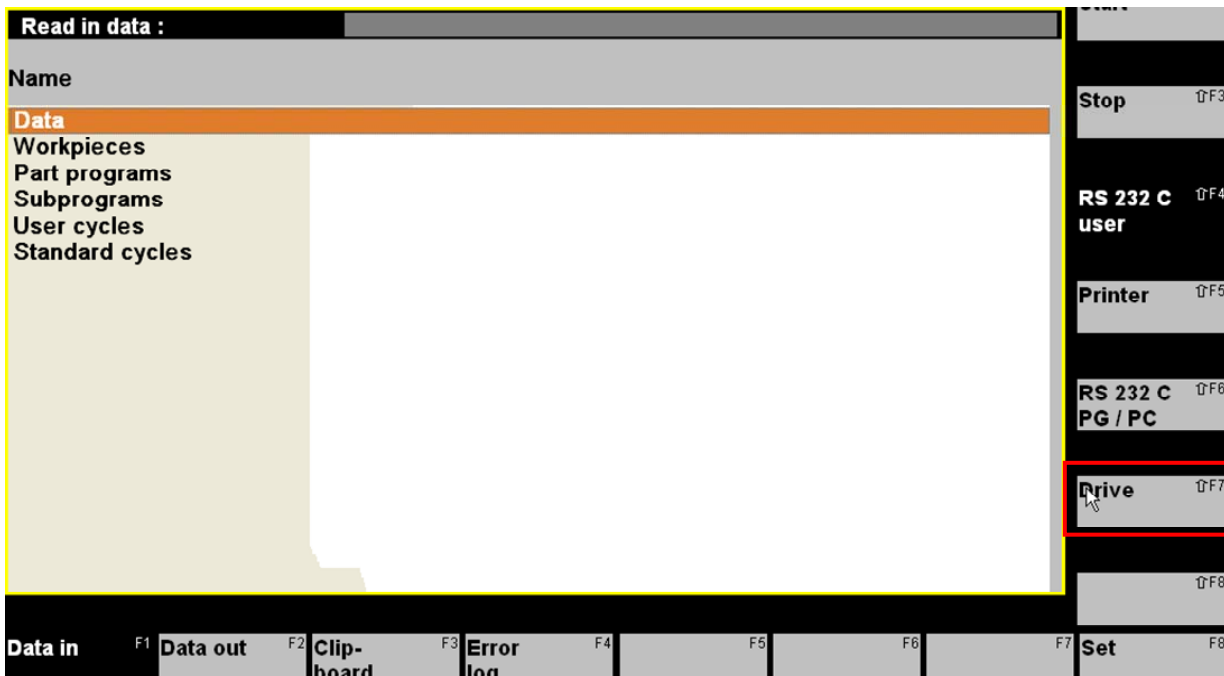

Fig.6.17: Shows the "read in data" screen.
20. Click on **"Drive"** as shown in fig. 6.17